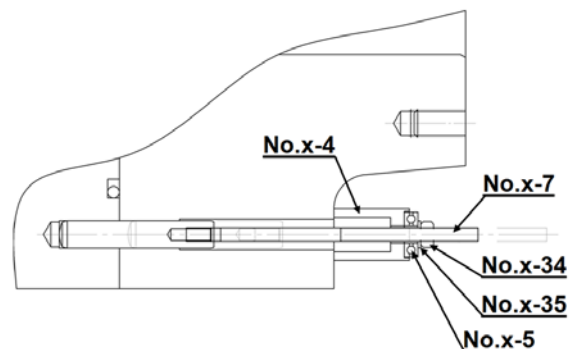

Figure 5-12 Special Tools for Parallel Pin of GH250S/L
If it is impossible to pull out the bearing cover only with hexagon head screws as jack bolts, remove it using the special tools (refer to Table 5-9) as shown in Figure 5-12.
1. Install special removing tools on the parallel pins [19] with referring to Fig 5-12.